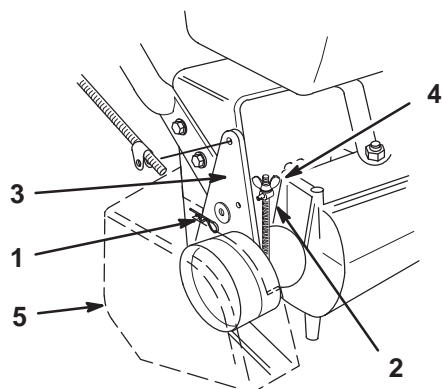

Figure 32
3. To adjust the brake remove the cotter pin and washer from the brake lever (Fig. 32).
4. Rotate the trunnion so it smoothly slides into brake lever (Fig. 32). Tighten wing nut.
5. Secure trunnion to brake lever with washer and cotter pin (Fig. 32).
1. Remove belt guard. Refer to figure 32.